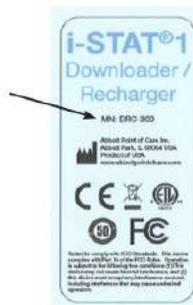

Figure 1
Previously, there were two separate versions of the i-STAT 1 Downloader/Recharger, one with serial connection capabilities to the Data Manager (DRS-300) and one with network connection capabilities to the Data Manager (DRN-300). To distinguish the DRC-300 from the previous DRS-300 and DRN-300 downloader/recharger versions, look at the Model Number (MN) label on the underside of the downloader/recharger. The i-STAT downloader/recharger will have an MN DRC-300 (Figure 1).